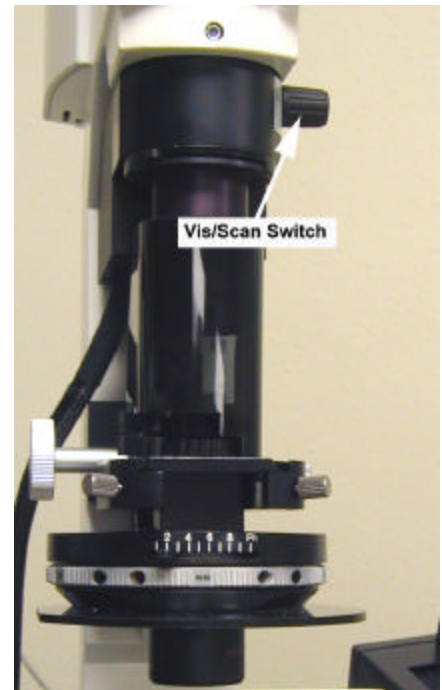

Fig. 3.1 Microscope, top
3.3. Turn the Vis/Scan Switch (Fig. 3.1) to SCAN.